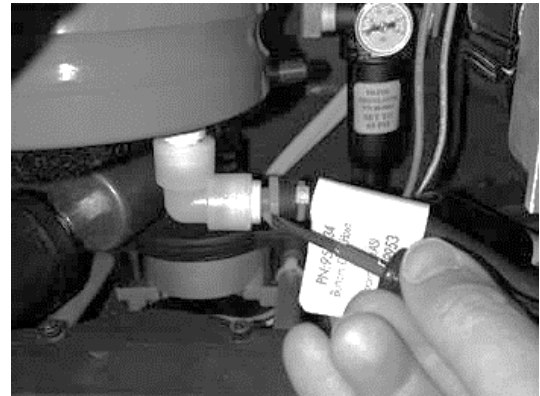

Fig. 4
- 5 Insert the head of a flat head screwdriver between the white plastic adapter and the white plastic connector on the tubing. Depress white ring while pulling down on the tubing. (Fig. 4)